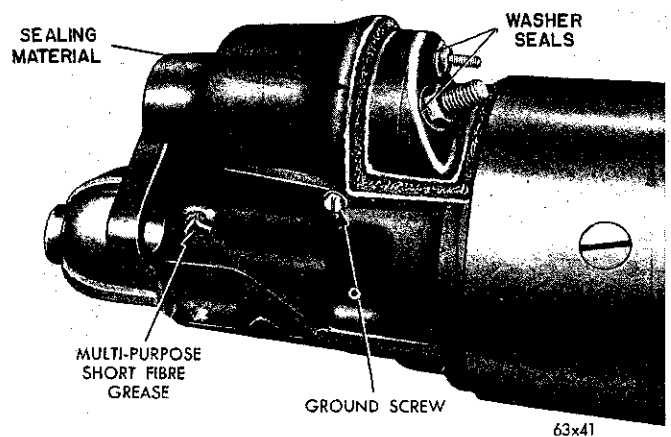

Fig. 27—Sealing the Brush Holder Plate
(26) Position the starter end head assembly and install the starter frame screws and lockwashers. Tighten the screws securely.
(27) Install the starter gear housing dust cover. Make sure the dimples on the cover are securely engaged in the holes provided in the gear housing.
(28) Install the ground screw in the gear housing.
(29) Clean the area at the joint between the brush holder plate to field frame and gear housing mating joint. Apply a bead of brush plate sealer MoPar Part No. 2421847 around the four sides of the joint (Fig. 27).